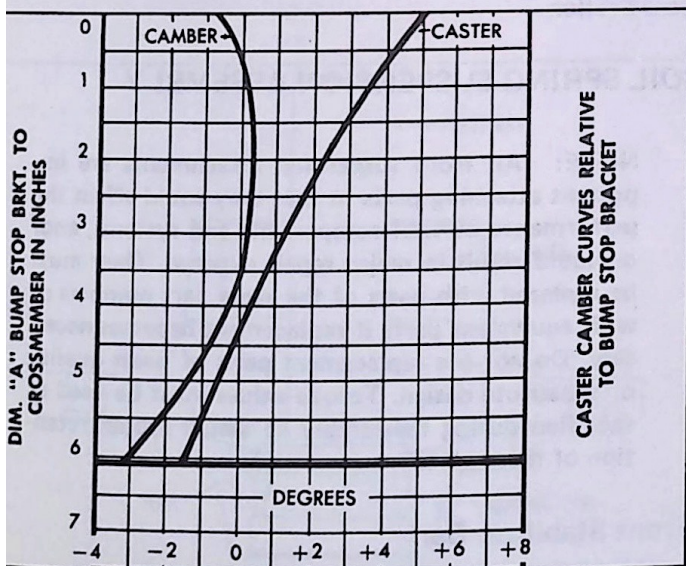

Fig. 4-Caster-Camber Chart
5. Using dimension "A" and the caster-camber chart (Fig. 4) for the appropriate vehicle, shown below, find the recommended caster angle.